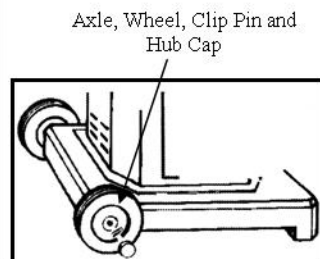

Fig. 3
**C.** On portable bases, attach the wheels by slipping the axle through the base, slide the wheels on and install the axle clips. Finish by snapping the hubcaps on. Flat base permanent models must be Lag Bolted to the deck or concrete for stability. (Fig. 3)
**C.** On portable bases, attach the wheels by slipping the axle through the base, slide the wheels on and install the axle clips. Finish by snapping the hubcaps on before standing upright. Flat base permanent models must be Lag Bolted to the deck or concrete for stability. **(Fig. 3 Page 8)**